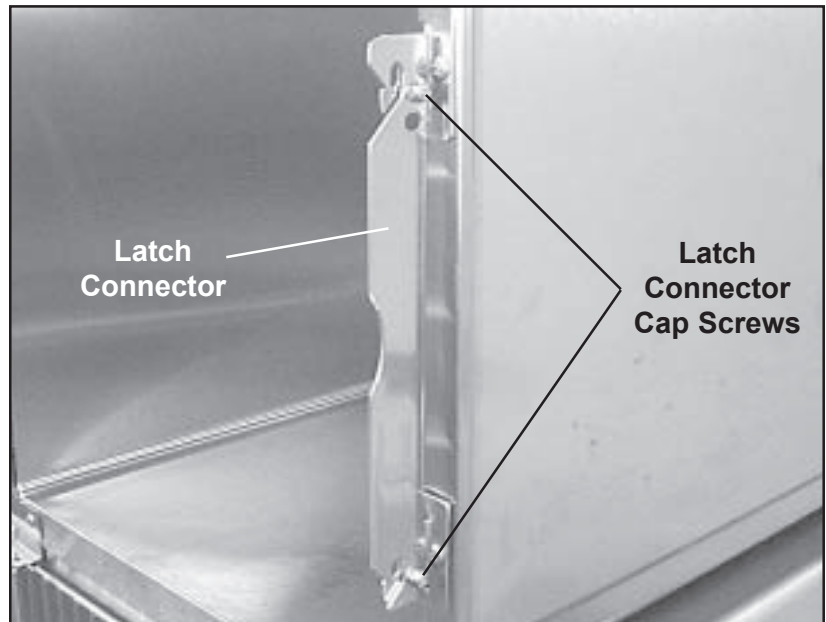

Figure 55. Removing the Latch Connector
2. With a Phillips screwdriver and a 7/16 in. wrench, remove the two cap screws and nuts that hold the latch connector to the L-brackets (Figure 55), and remove the latch connector.